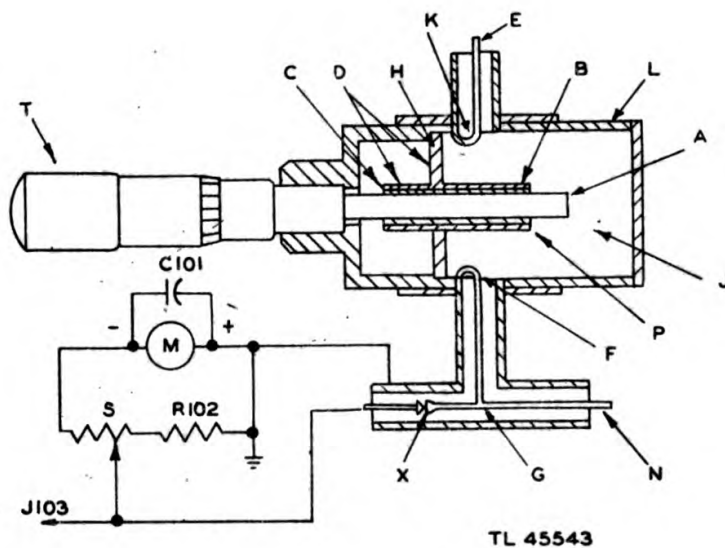

Figure 41. Resonant cavity, simplified schematic diagram.
(1) The wavemeter utilizes a resonant cavity which is a quarter-wave long (fig. 41). The cavity consists of an outer conductor, L, with an inner conductor, B. The inner conductor has an extension, A, and is shorted to the outer conductor at H.
(2) Since the cross-hatched section between the inner conductor, B, and its extension, A, is a dielectric, an electrical connection must be made between A and B at the point P. In the thimble end of the cavity the path from point C through D, the outer conductor L, and the inner conductor A, and back to C constitutes a folded half-wavelength. This places a high impedance between A and B at point C. From C to P is a quarter-wavelength. This places a low impedance between A and B at point P, effectively connecting inner conductor B and its extension A.
(3) Turning thimble T changes the shape and size of the cavity and therefore changes the resonant frequency. Turning thimble T so that extension A projects farther into the cavity, decreases the size of the cavity and decreases the frequency. A calibration chart shows the effective frequency range obtained by varying the size of the cavity by means of the extension. Two methods of frequency measurement are possible, the transmission method and the absorption method.